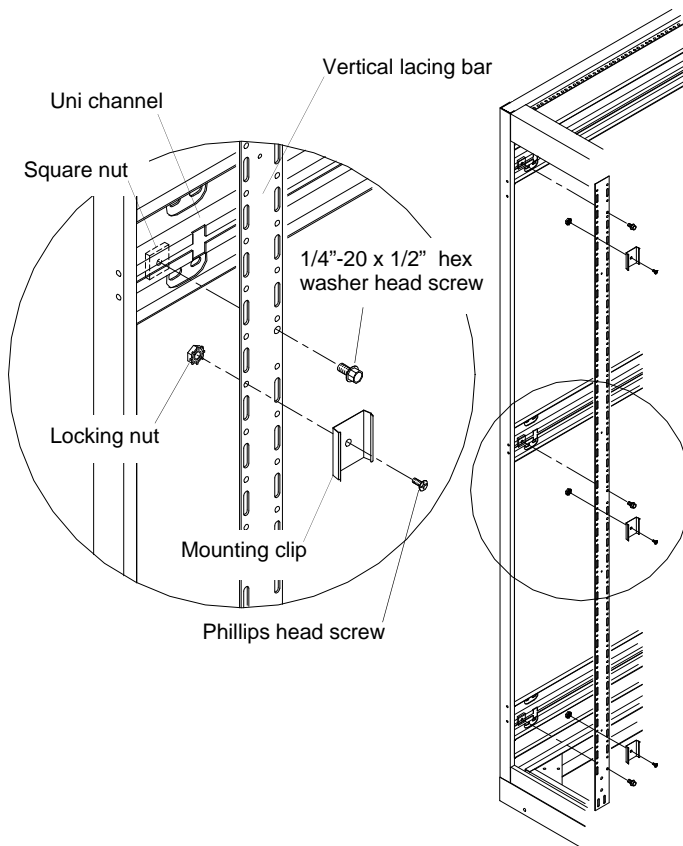

Figure 19
1. Install three **Mounting Clips** (provided with the power strip) onto the **Vertical Lacing Bar** using the phillips head screws and locking nuts (provided with the power strip). See figure 19.
2. Determine the desired location for the **Vertical Power Strip** inside the enclosure. Attach the Vertical Lacing Bar to the uni channels using three 1/4"-20 x 1/2" hex washer head screws and three square nuts. Ensure that the Lacing Bar is vertical and tighten the screws. See figure 19.